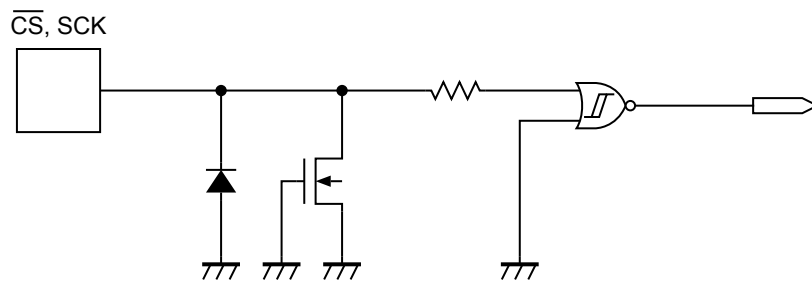

Figure 19  $\overline{\text{CS}}$ , SCK Pin
**Figure 19** and **20** show the equivalent circuits of input pins in the S-25CM01A. A pull-up and pull-down elements are not included in each input pin, pay attention not to set it in the floating state when you design.